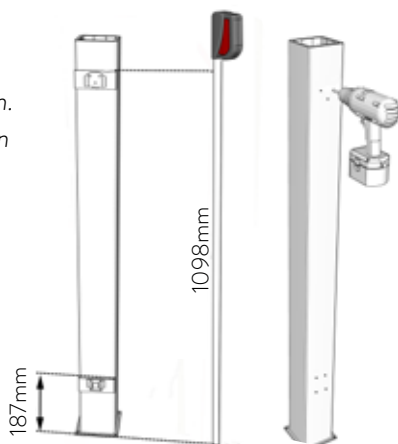

Figure 4
- 3 Determine the position of the upper and lower corner screw holes (check the middle position and the height of the column) and pre-drill. As shown on Figure 4: